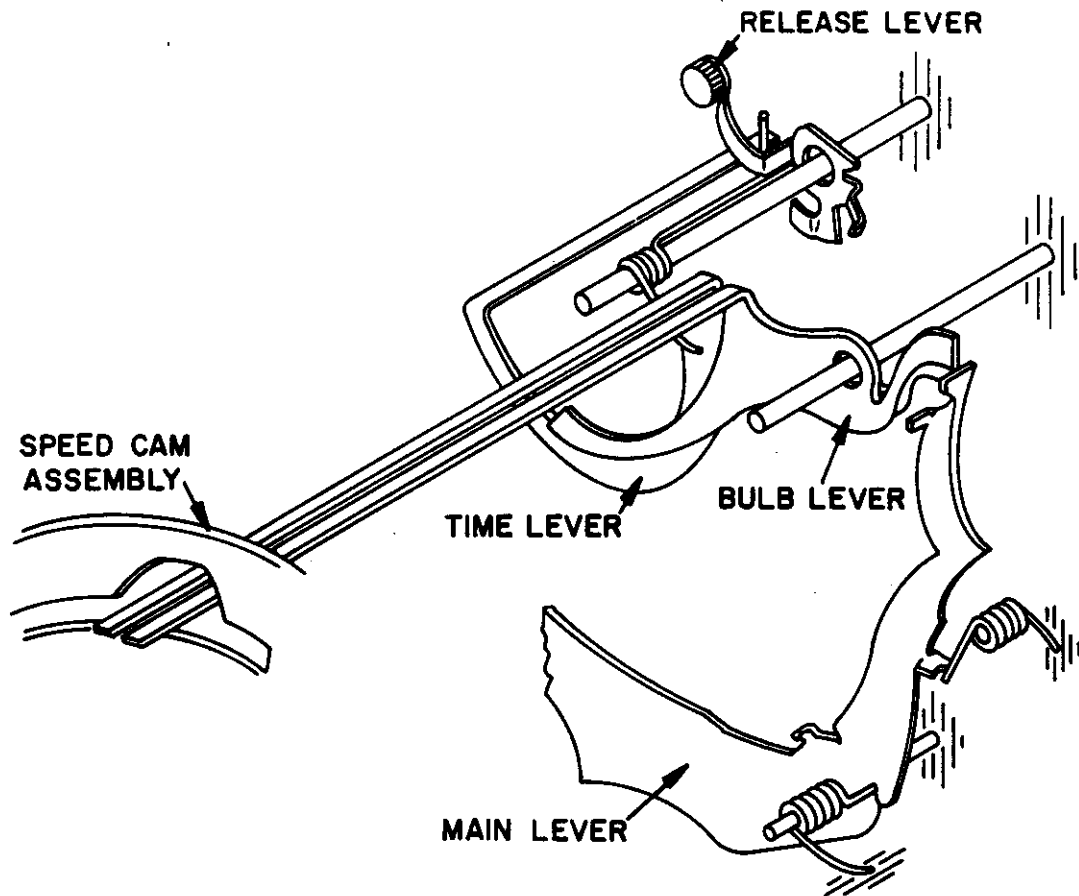

Figure 5. TIME AND BULB LEVER OPERATION
- (1) No. 1 and 2 Shutters. When the shutter is not cocked a lug on the focus lever bears on the main lever and prevents movement of the focus lever.
- (2) No. 3 Shutter. The lug on the focus lever engages with the stop lever which prevents movement of the focus lever when the shutter is not cocked.
6. Time Setting (fig. 5)
7. Bulb Setting (fig. 5)